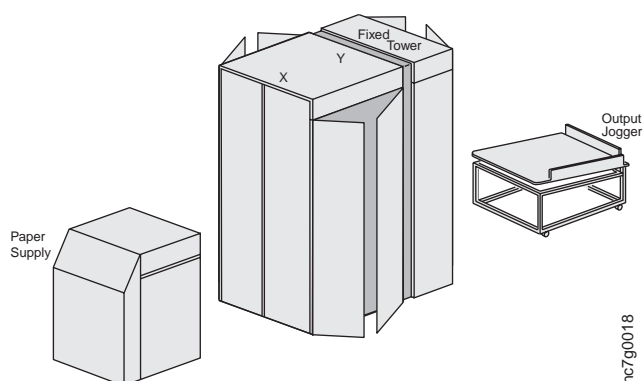

Figure 291. Right Side View of the InfoPrint Color 100
10. Move the output jogger away from the fixed tower and then open the access doors of the fixed tower, as shown in Figure 291.